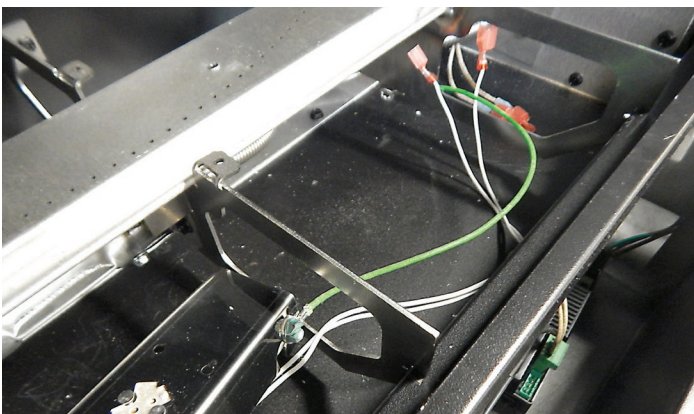

Figure 6
- Install the Light bracket assembly with the Right Side bracket that includes the Green Ground wire first. Feed the ground wire and light wires with male terminal ends through the center/right burner support bracket and then through the right end burner bracket. **See Figure 6.**